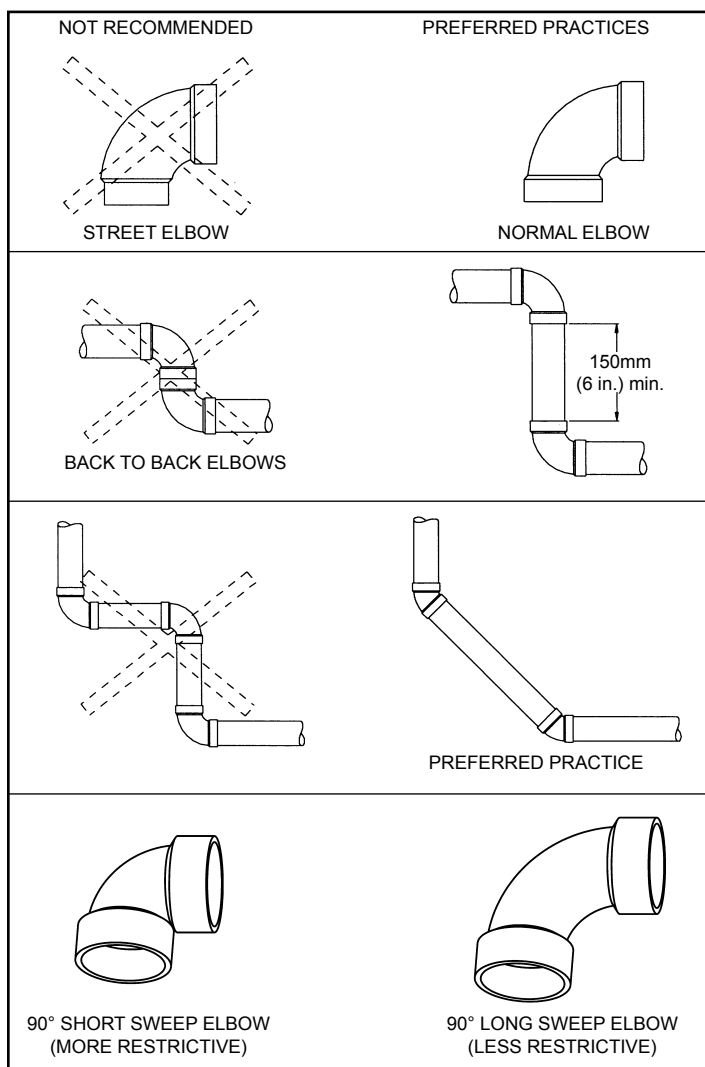

Figure 13
Note: The information provided in Figure 13 is intended as a guideline for good vent installation practices only and is not intended to restrict venting options beyond those restrictions established by the latest edition of the **"Natural Gas and Propane Installation Codes" CSA-B149.1** or any applicable local and provincial codes.
4. Avoid the use of 90 degree elbows "back to back" and do not use street elbows. Maintain a minimum 150mm (6 in.) straight section between elbows. Closely coupled and short radius elbows reduce the venting capacity. Figure 13 shows examples of vent pipe connections.